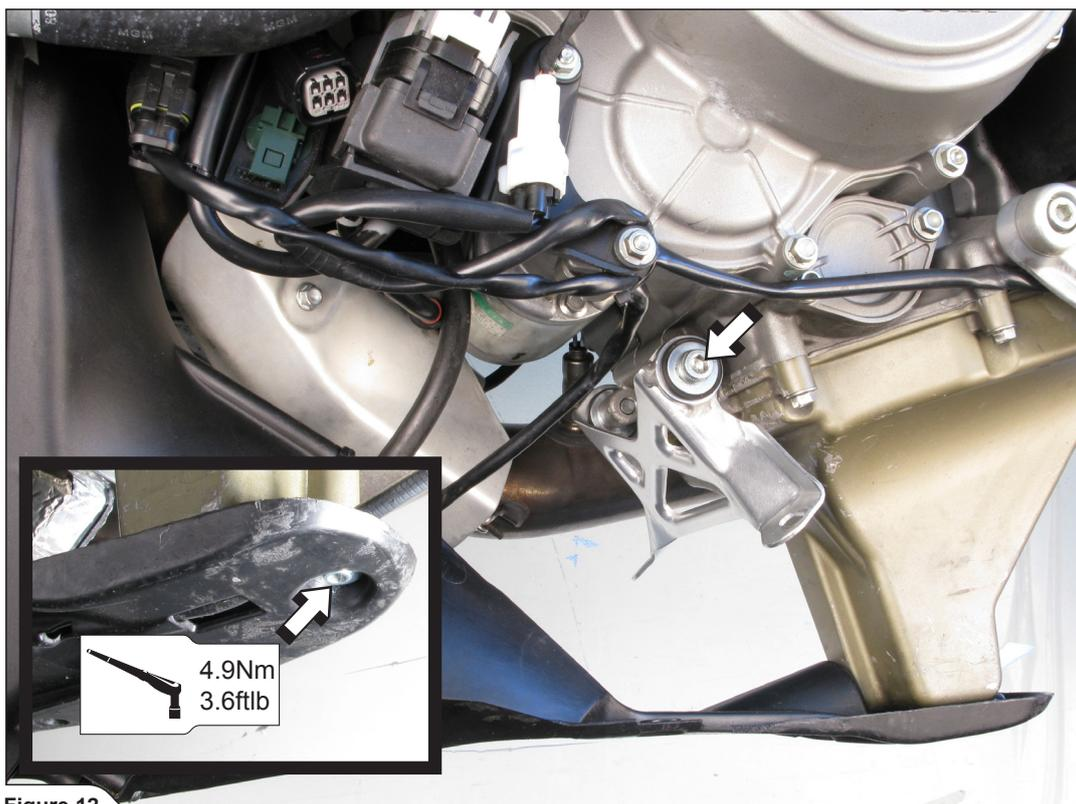

Figure 12
10. Unscrew the muffler's bracket and tighten the plastic protection back onto the oil sump (Figure 12).